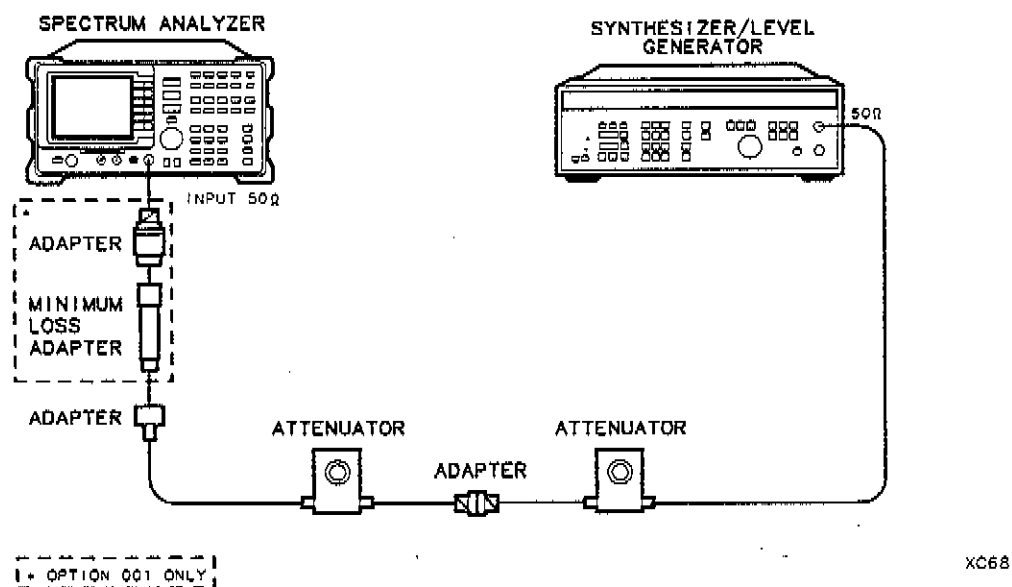

Figure 1-10. Scale Fidelity Test Setup
2. Connect the equipment as shown in Figure 1-10. Set the 10 dB step attenuator to 10 dB attenuation and the 1 dB step attenuator to 0 dB attenuation.